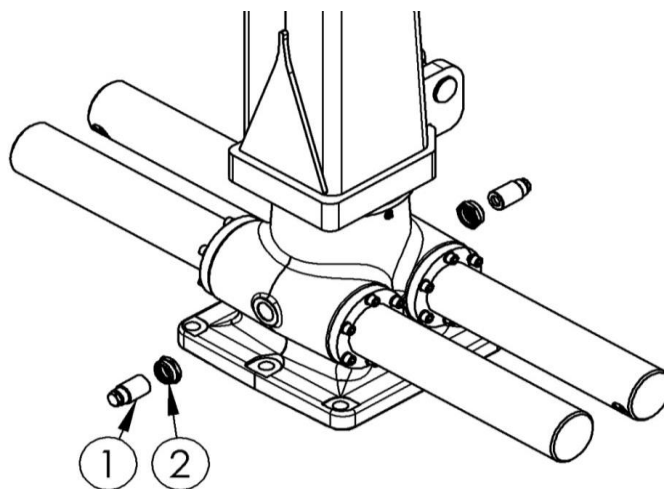

Figure 17. Adjusting racks of slewing device
- Release the locking nut widely enough, so it will not obstruct tightening (pos. 2 fig. 17).
- Tighten the bolt (pos. 1, fig. 17) against the gear rack with 20-25 Nm (2-2,5 kg*m).
- Tighten the locking nut (pos. 2 fig. 17).
2. Ensure that the slewing device is in horizontal position, as shown on fig. 17.
3. Release the lock nut (pos. 2, fig. 17).
4. Remove the bolt (pos. 1, fig. 17).
7. Tighten the lock nut according to manual's point 9.2 (pos. 2, fig. 17).